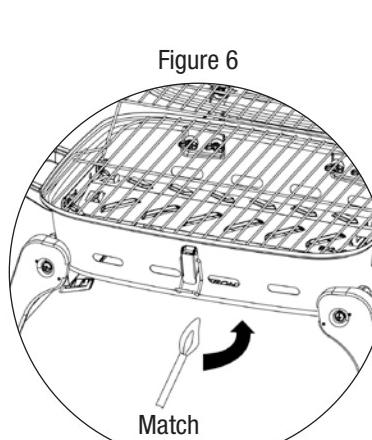

Figure 6
6. Insert a long lit match close to the burner through a hole in bottom bowl as indicated. (Figure 6)